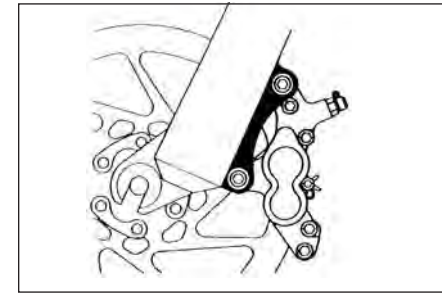

Figure 10.
- (1) If your bike has rim brakes, disengage the brake's quick-release mechanism to increase the clearance between the tire and the brake pads (See Section 4.C figs. 10–13).
- (2) If your bike has rim brakes, disengage the brake's quick-release mechanism to increase the clearance between the wheel rim and the brake pads (see Section 4.C, figs. 10–13).
- (3) On a derailleur gear system, pull the derailleur body back with your right hand.
Most rim brakes have some form of quick-release mechanism to allow the brake pads to clear the tire when a wheel is removed or reinstalled. When the brake quick release is in the open position, the brakes are inoperative. Ask your local REI store to make sure that you understand the way the brake quick release works on your bike (see figs. 10–13) and check each time to make sure both brakes work correctly before you get on the bike.